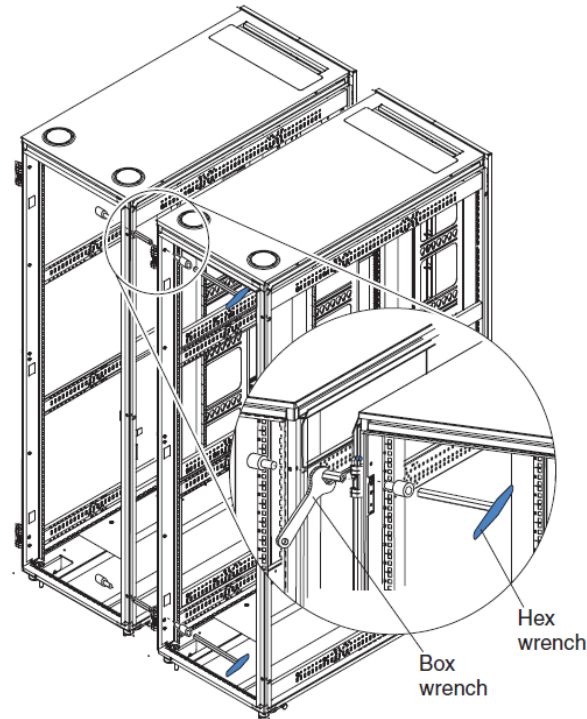

Figure 13. Attaching 42U deep static standard and expansion racks to each other to form a suite
2. Insert an attachment pin that comes with the expansion rack through the top slot on the front of the standard and expansion racks as shown in Figure 13. The slot is located behind the top hinge.